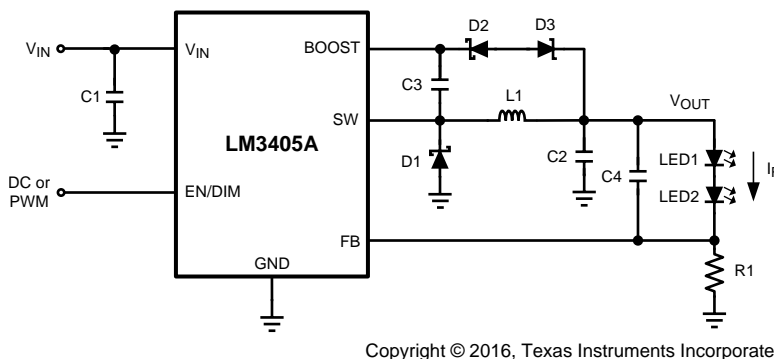

Figure 29.  $V_{BOOST}$  Derived from  $V_{OUT}$  Through a Series Zener Diode (D3) ( $V_{IN} = 18\text{ V}$ ,  $I_F = 1\text{ A}$ ) Diagram
**Table 8. Bill of Materials for Figure 29**